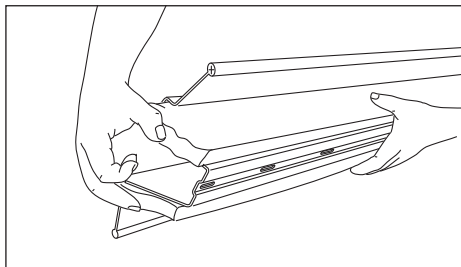

Fig. 5 – Fit foam rubber strip to each side of batten section
- 6 Insert the closed cell foam rubber strip (supplied in fixing kit), into recesses on each side of PVCu extruded dry hip batten section (Fig. 5).